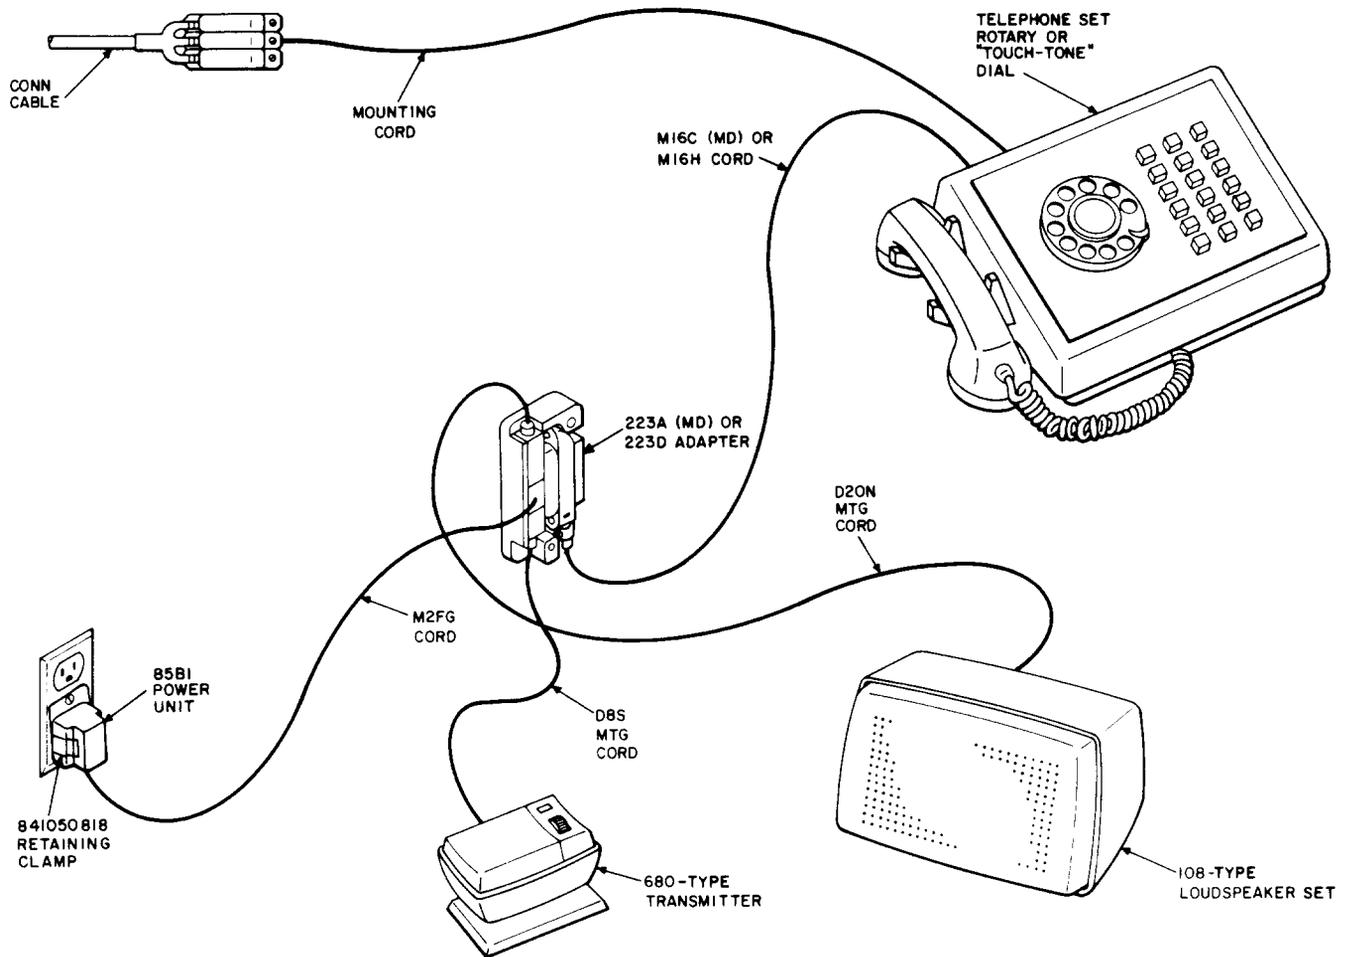

Fig. 20—4A Speakerphone System Arrangement, CALL DIRECTOR Telephone Sets Using 223A (MD) or 223D Adapter
I. ♦Speakerphone (Fig. 20 or 21)
as shown in Fig. 20 or other arrangements as shown in Division 512.